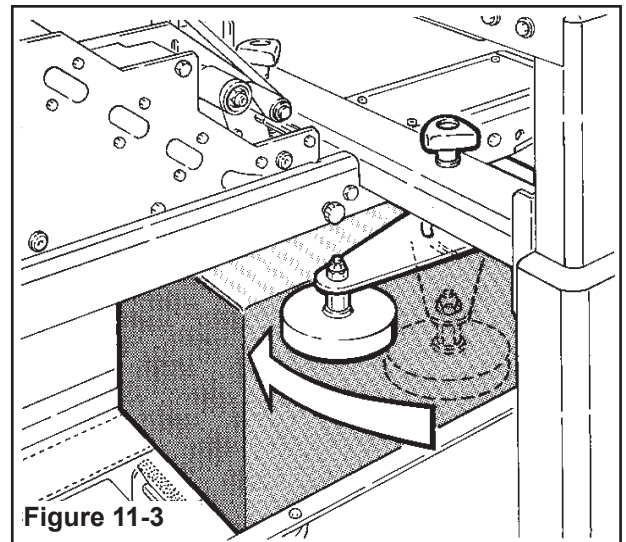

Figure 11-3
Run the box through the machine and press the EMERGENCY STOP BUTTON when the box is adjacent to the compression rollers. Move the compression rollers in to firmly press the top flaps together. Release Emergency Stop Button and press electrical ON (I) button (Figure 11-3).